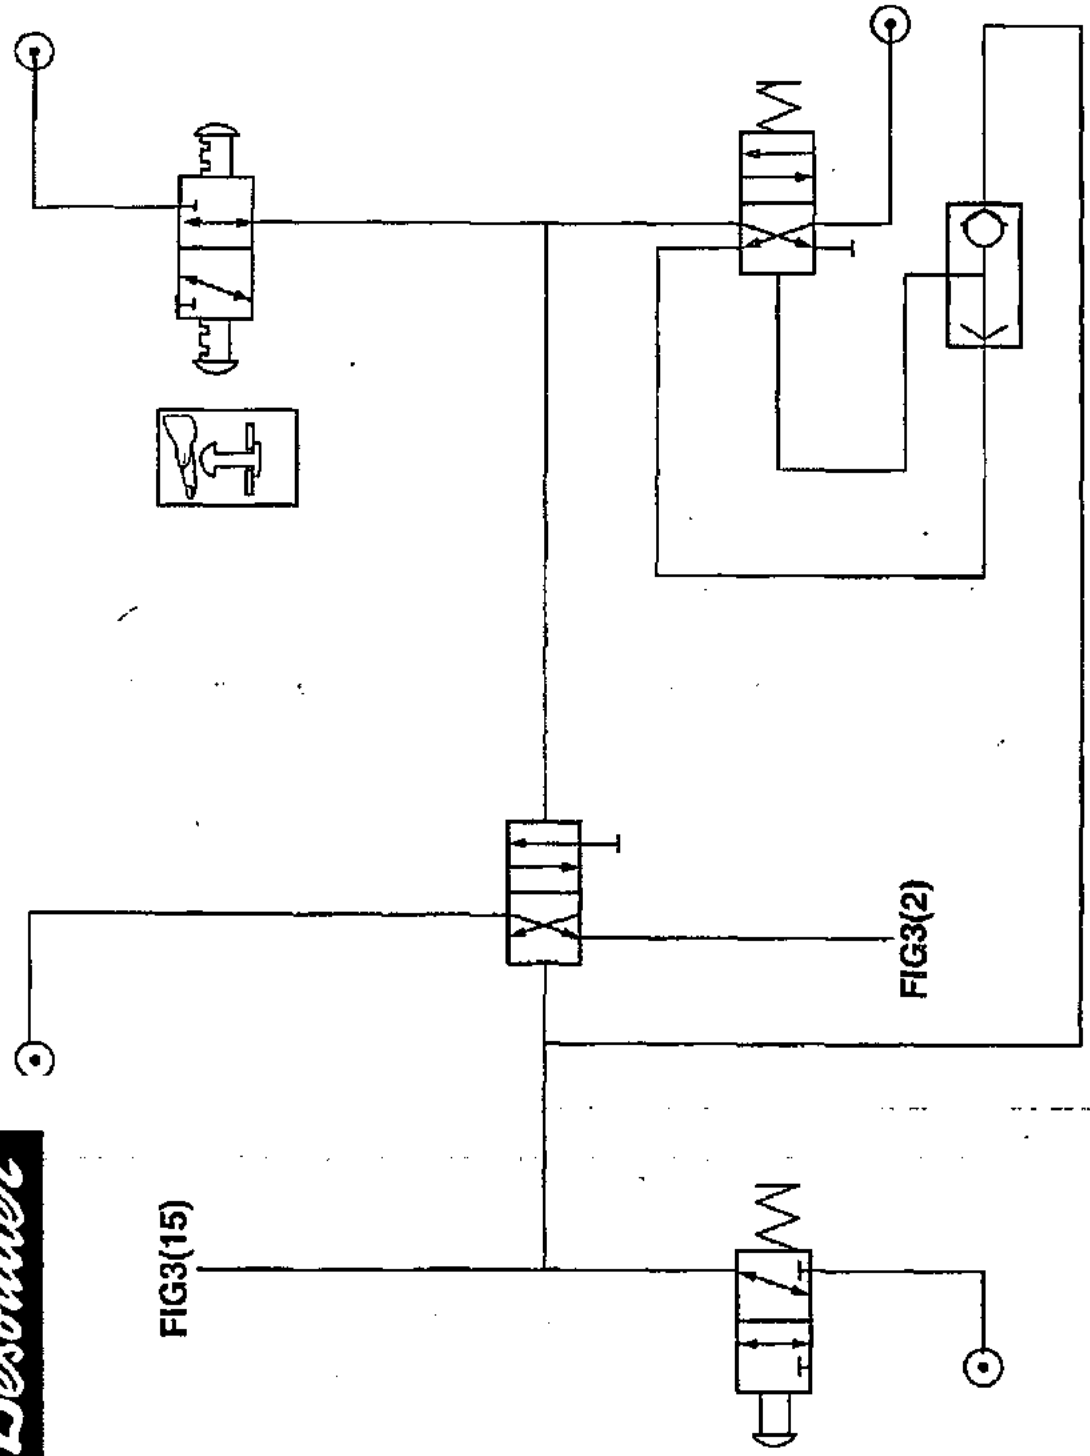

FIGURE 2
**NOTE:** Provision must be made for an Emergency Stop if the tool is used alone or built into a machine. A suitable circuit diagram for manufacturing an Emergency Stop is provided in Figure 2.
**WARNING:** (1) ALWAYS DISCONNECT THE TOOL FROM THE AIR SUPPLY BEFORE ATTEMPTING ANY REPLACEMENT, ADJUSTING, SERVICING OR DISMANTLING.
(2) ENSURE THAT NO LOOSE ARTICLES OF CLOTHING, LOOSE HAIR OR CLEANING MATERIAL CAN BE CAUGHT BY THE MOVING PARTS OF THE TOOL.
(3) ALWAYS ALLOW THE TOOL TO STOP BEFORE REMOVING THE WORK.
(4) ENSURE THAT THE WORK PIECE IS SECURELY CLAMPED BEFORE COMMENCEMENT OF OPERATION.
(5) CLEAR ALL LOOSE ITEMS FROM THE VICINITY.
(6) ENSURE THAT THE TOOL IS SECURELY CLAMPED AROUND THE OUTER CASE BEFORE COMMENCEMENT OF OPERATION.
(7) ENSURE THAT SAFETY GUARDS ARE FITTED.
(8) BEWARE OF TOOL OUTPUT. THIS ADVANCES AND ROTATES.
(9) EYE AND EAR PROTECTION MUST BE WORN WHEN OPERATING THE TOOL.
(10) DO NOT OPERATE THE TOOL IN EXPLOSIVE ATMOSPHERES.
(11) WHEN MACHINING HAZARDOUS MATERIALS, PROVISION MUST BE MADE FOR DUST COLLECTION OR SUPPRESSION.
(12) ENSURE THAT AN EMERGENCY STOP IS PROVIDED FOR THE TOOL, WHETHER USED ALONE OR BUILT INTO A MACHINE. A SUITABLE EMERGENCY STOP CIRCUIT IS DETAILED IN FIGURE 2.